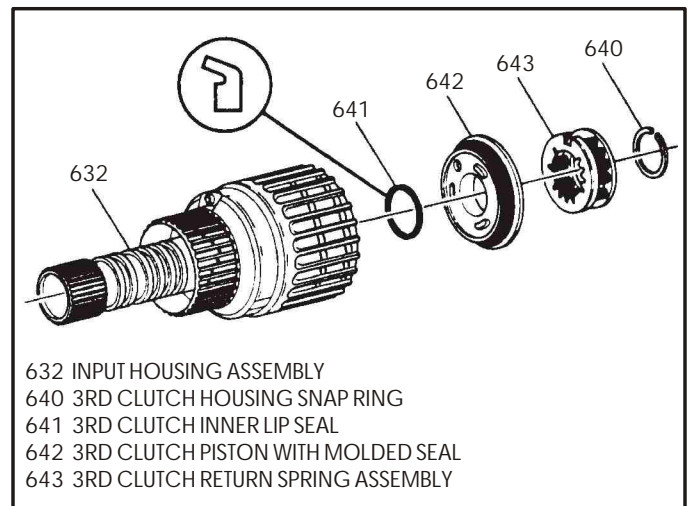

Figure 104
10. Remove the molded seal 3rd clutch piston from the input housing, as shown in Figure 104.
11. Remove the 3rd clutch inner lip seal from the inner hub of input housing (See Figure 104).